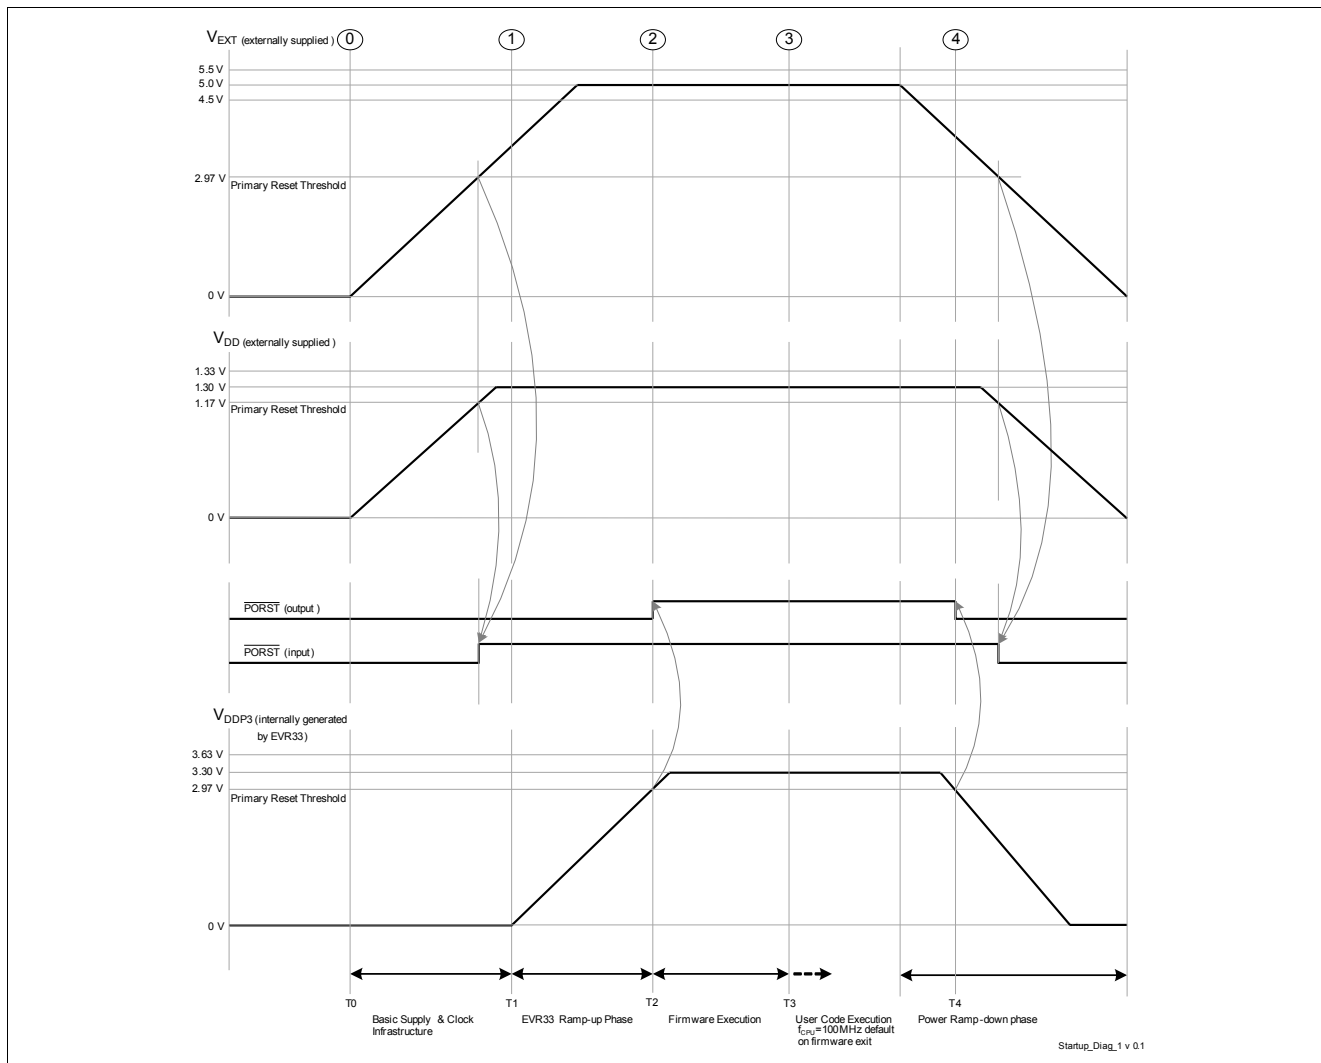

Figure 3-4 External Supply Mode - 5 V and 1.3 V externally supplied
- The power sequence as shown in Figure 3-4 is enumerated below